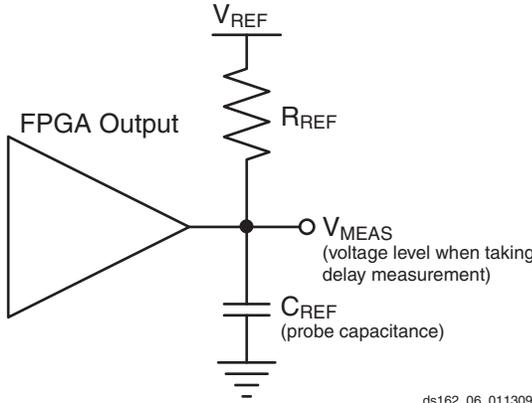
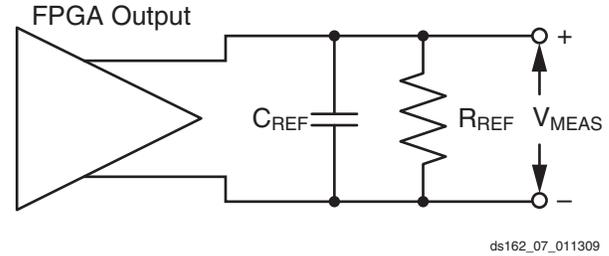

Figure 4: Single-Ended Test Setup
Figure 5: Differential Test Setup
4. This is an input voltage reference that bears no relation to the V_{REF} / V_{MEAS} parameters found in IBIS models and/or noted in Figure 4.
Output delays are measured using a Tektronix P6245 TDS500/600 probe (< 1 pF) across approximately 4" of FR4 microstrip trace. Standard termination was used for all testing. The propagation delay of the 4" trace is characterized separately and subtracted from the final measurement, and is therefore not included in the generalized test setups shown in Figure 4 and Figure 5.